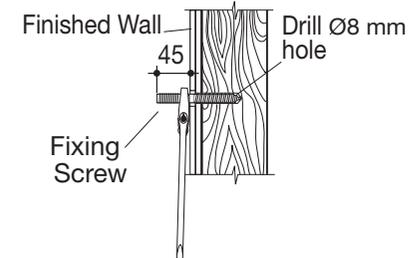

Fig 2
- 3- Insert expansion fasteners into the drilled holes in masonry wall. Screw Fixing Screws into the wall using the flats located on the screws section of the stud and spanner as shown in **Figure 2**. Allow 45mm of thread to protrude from the finished wall.